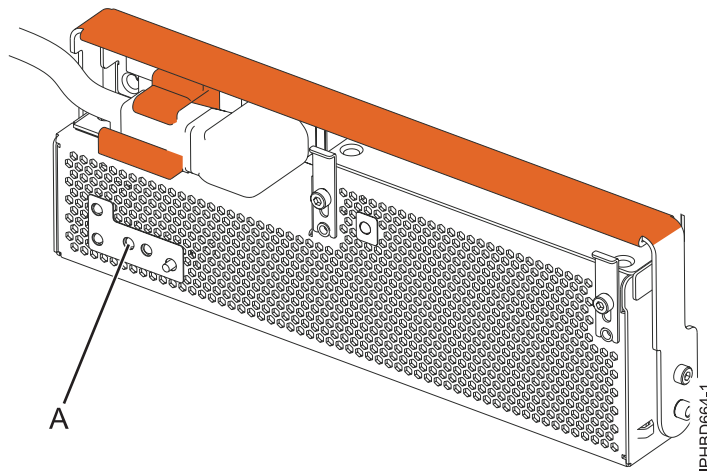

Figure 7. FRU fault and identify LED
4. At the front of the expansion unit, identify the power supply that must be replaced. To identify the power supply, observe the state of the amber field-replaceable unit (FRU) fault and identify light-emitting diode (LED) (A) as shown in Figure 7. A lit (on solid or flashing) LED indicates the failing power supply.